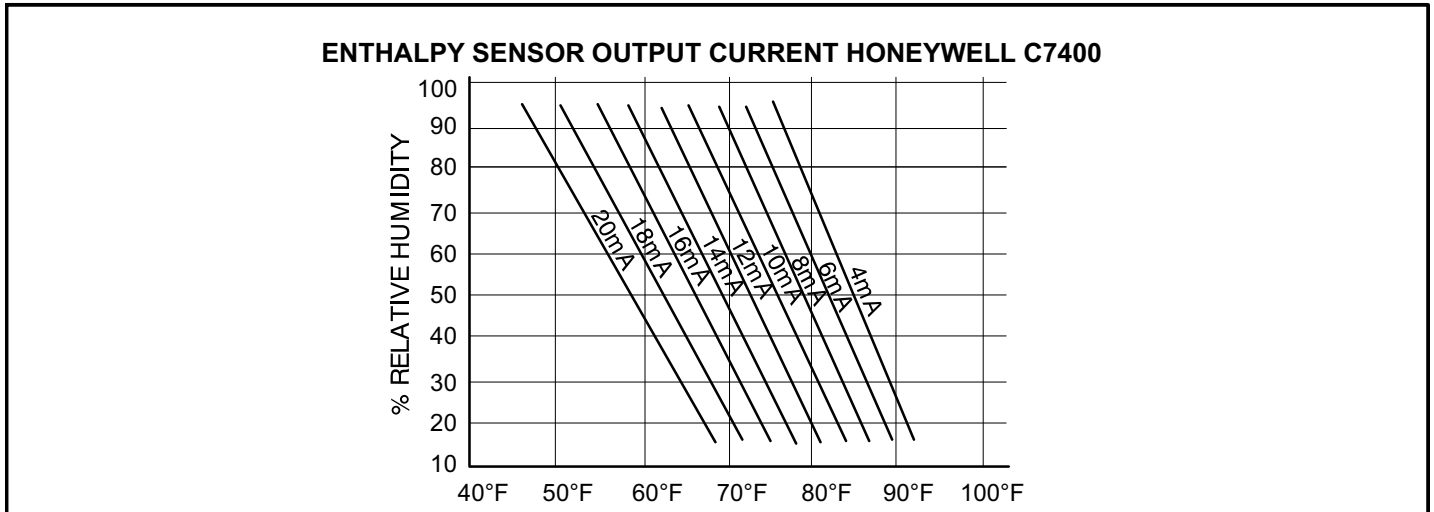

FIGURE 13
This setting pertains to the single enthalpy free cooling mode only. The M3 Unit Controller will enable free cooling when outdoor air enthalpy (A7) is less than the enthalpy set point (Parameter 162 - ECON FREECL ENTH SP). Figure 13 shows the approximate enthalpy sensor output at various temperatures and percentage of relative humidity.
- B** The reading will be between 4 and 20 ma. depending on outdoor temperature and humidity. Refer to figure 13 to approximate reading.